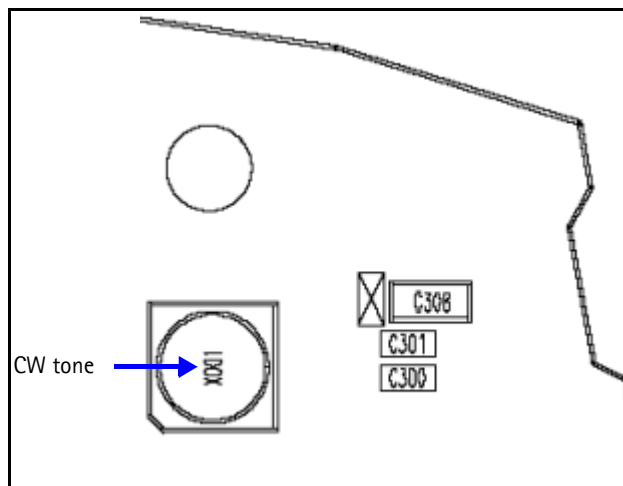

Figure 56: GPS antenna port
5. Inject a -50 dBm tone at 1575.52 MHz into the GPS connector (X001) with a signal generator or call box. (See Figure 56 on page 63.)